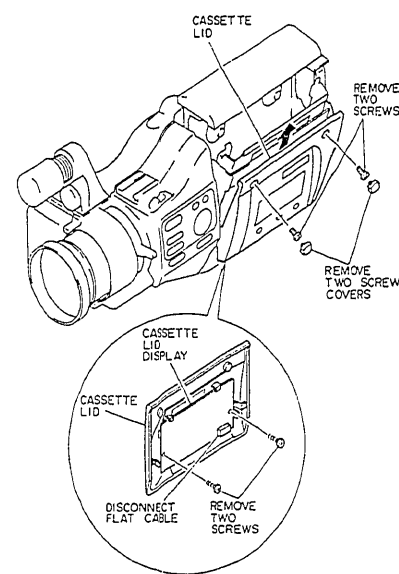

Fig. 2-1
- 1) Remove two (2) screw covers. (See Fig. 2-1)
- 2) Remove two (2) screws holding the cassette lid.
- 1) Remove two (2) screws holding the cassette lid display. (See Fig. 2-1)